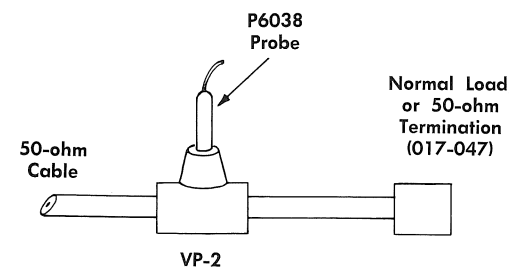

Fig. 2-2. Using the VP-2.
**Voltage Pickoff Adapter.** The Tektronix Voltage-Pickoff Adapter VP-2 (System 8 of Table 2-1) permits using the P6038 Probe to look at signals within a closed 50-ohm system with negligible effect on the signal (see Fig. 2-2). The VP-2 makes it unnecessary to use a 25-ohm source for the P6038 Probe. (Tektronix Part. No. 017-077)
The Type 661 Amplitude/Time Calibrator can be used to quickly check the Type 453-P6038 deflection factor. Use the VP-2 system shown in Fig. 2-2 (or equivalent) at the calibrator output connector. Operate the Timing Unit at 0.1  $\mu$ sec/cm with internal triggering from the calibrator. Obtain a stable display with the THRESHOLD control in the minus region.